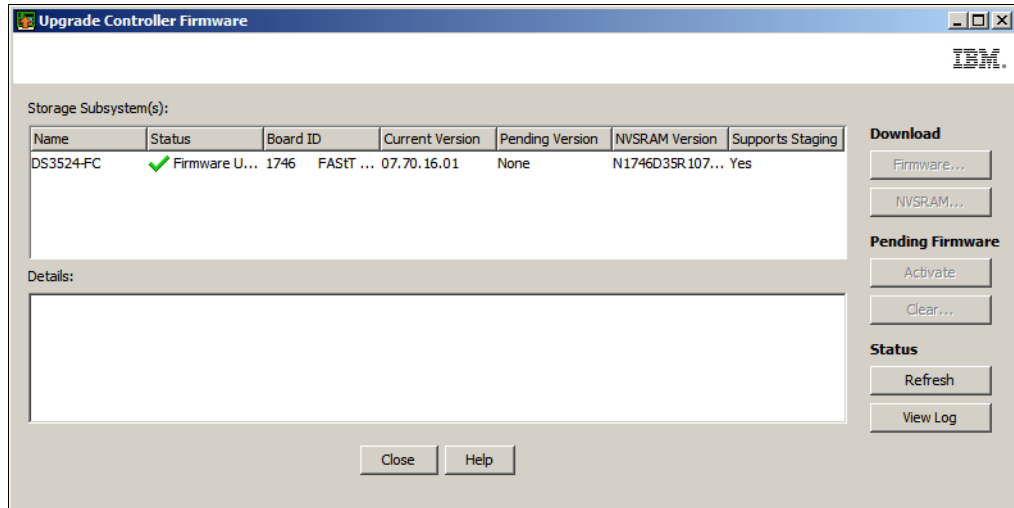

Figure 14-45 Successful firmware transfer and activation
- c. Figure 14-45 on page 362 shows the status after the firmware has been transferred and activated.